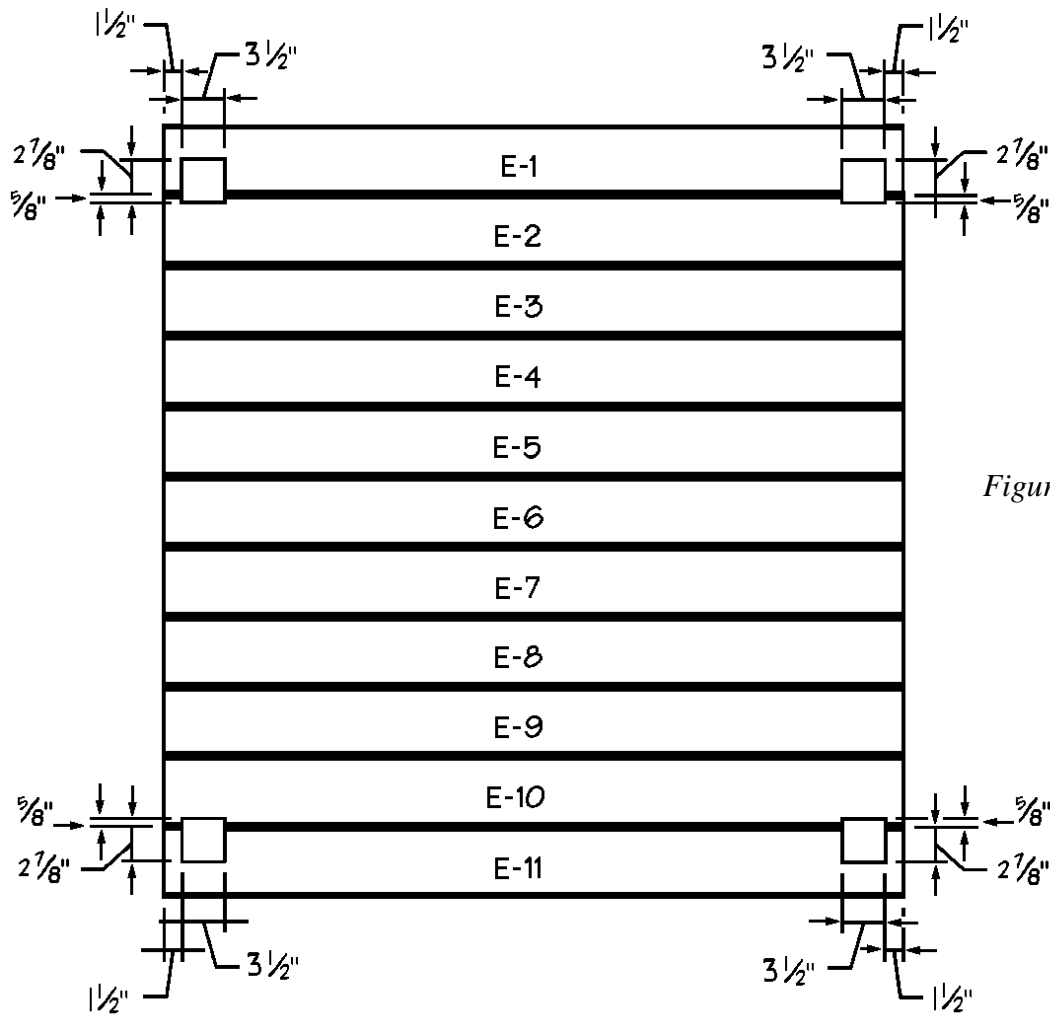

Figure 3
1. Cut 11 Floorboards (E) from 5/4 x 6 decking, each measuring 60-1/2 inches.
2. Since the floorboards (E) must be cut to fit around the corner Posts (D), follow the cutout measurements and the placement sequence, as shown in *Figure 3* to add the Floorboards (E) to the structure. Cut and place one Floorboard (E) at a time, beginning with number 1 and ending with number 11. Because of variations in lumber sizes, it may be necessary to re-trim some of the Floorboards (E). Make certain that each of your floorboards (E) fits correctly before cutting the next one. The Floorboards (E) will overhang the Front/Back (A) and Sides (B) by 1-3/4" inches. Screw through each Floorboard (E) into the Sides (B) and Center Support (C), using two 2-1/2-inch wood screws on each joint.